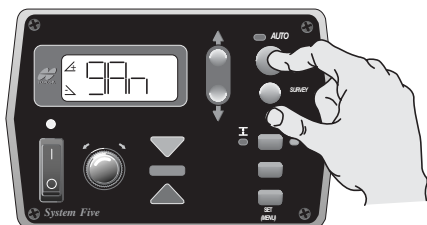

Figure 21. Select Gain (Slope Control)
1. From the Performance menu, press the Auto button to select Gain (Slope Control) (Figure 21).